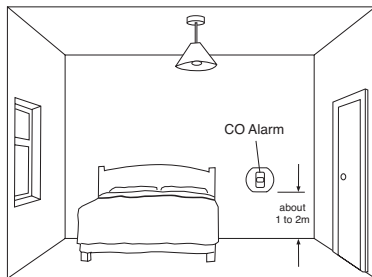

Figure 3
3.32 If locating the CO alarm in a bedroom or in rooms remote from a fuel burning appliance (see figure3)